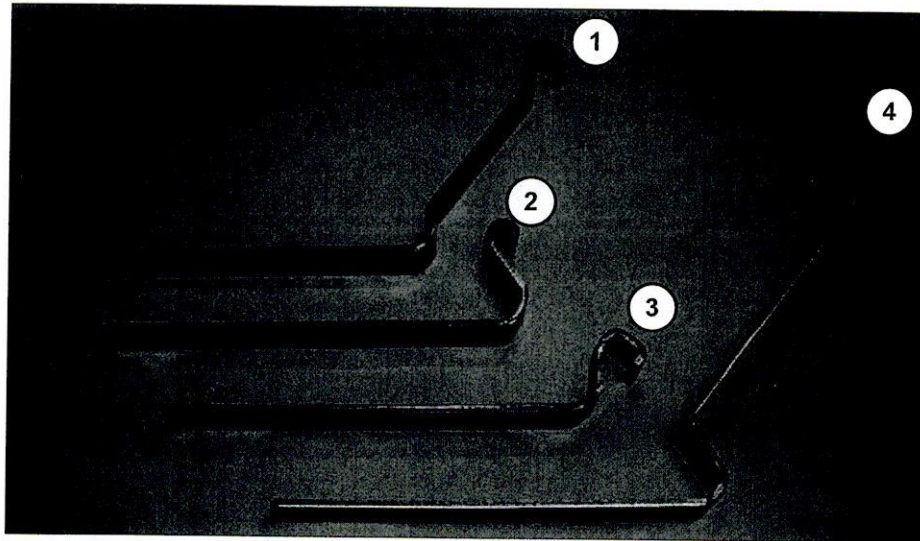
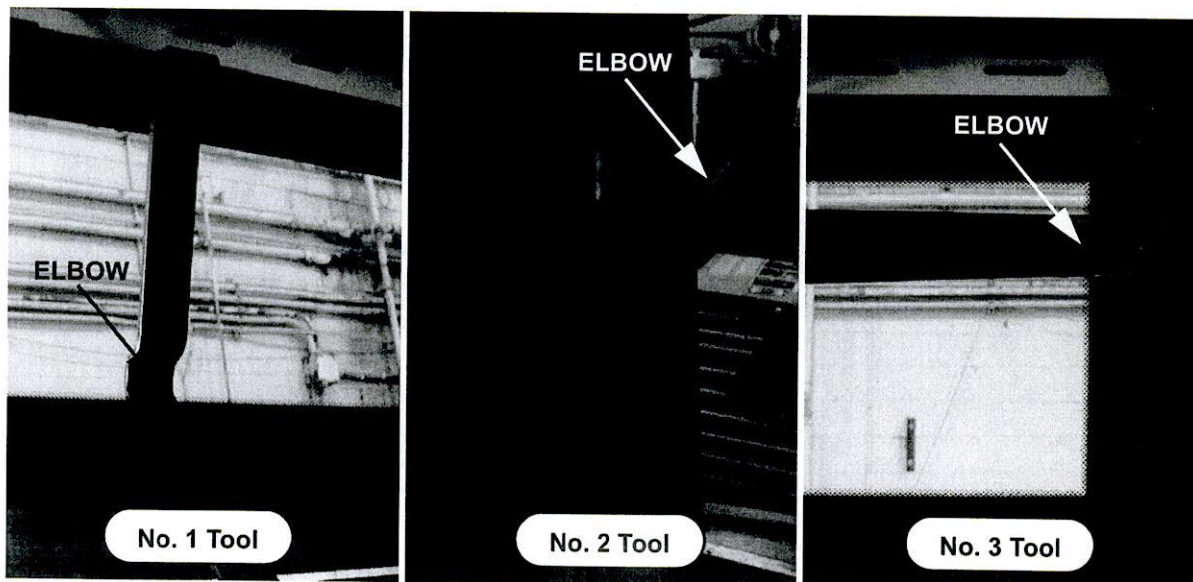

FIGURE 1-3 WINDOW TESTING TOOLS
FIGURE 1-4 TOOL USE
3. With the window to be tested in the open position, select the appropriate testing tool (See **Figure 1-3**) and secure it to the lip of the window as shown in **Figure 1-4** so the elbow of the tool is at the pressure point being tested.
- a. **Driver's Barrier (C1) Window** - Using the No. 2 testing tool (See **Figure 1-3**) in the positions specified for a lower vent window in "**Window Load Test Points - Mullion-Hinged Windows**" on page 8, open the window behind the driver's barrier and test from **outside the bus**.